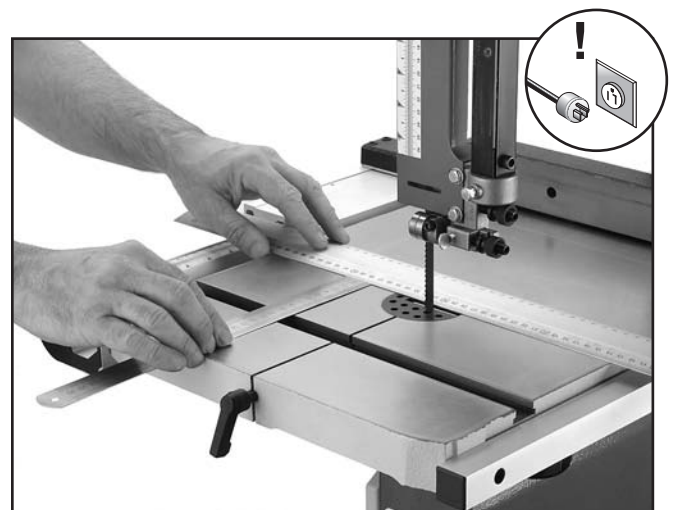

Figure 26. Measuring miter slot parallelism with the blade.
5. Use a fine ruler to gauge the distance between the straightedge and the miter slot. The distance you measure should be the same at both the front and the back of the table (see **Figure 26**).